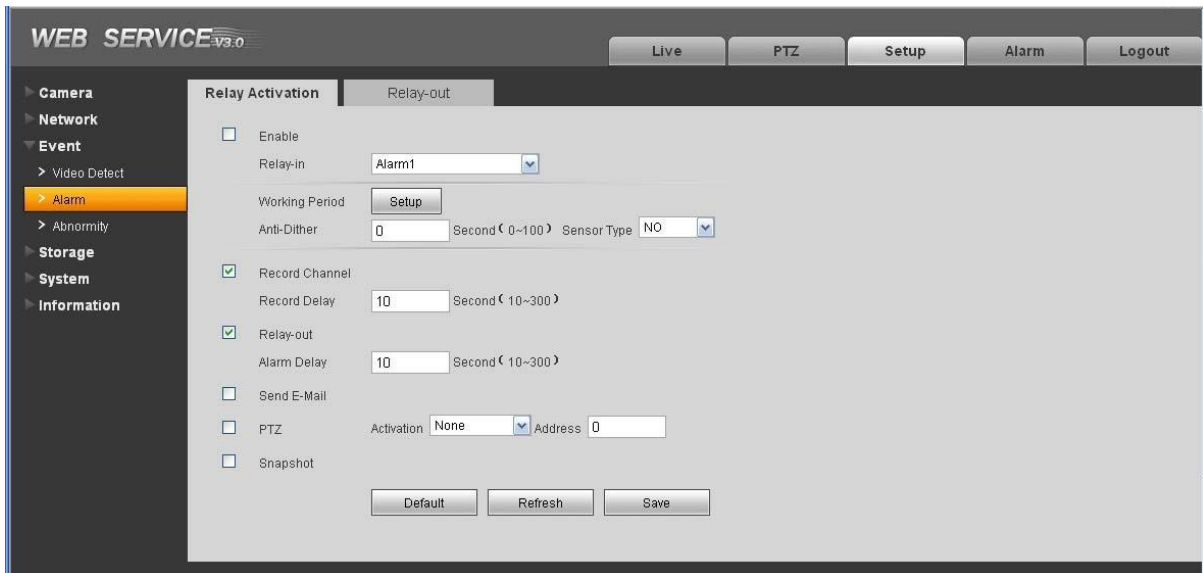

Figure 2-9
The alarm interface is shown as in Figure 2-9. Please follow the steps listed below for local alarm input and output connection.
- 3) Open the Web, go to the Figure 2-9. Please set the alarm input 01 port for the first channel of the I/O cable (No.3 pin). The alarm input 02 is for the 2nd channel of I/O cable (No.4 pin). Then you can select the corresponding type (NO/NC.)